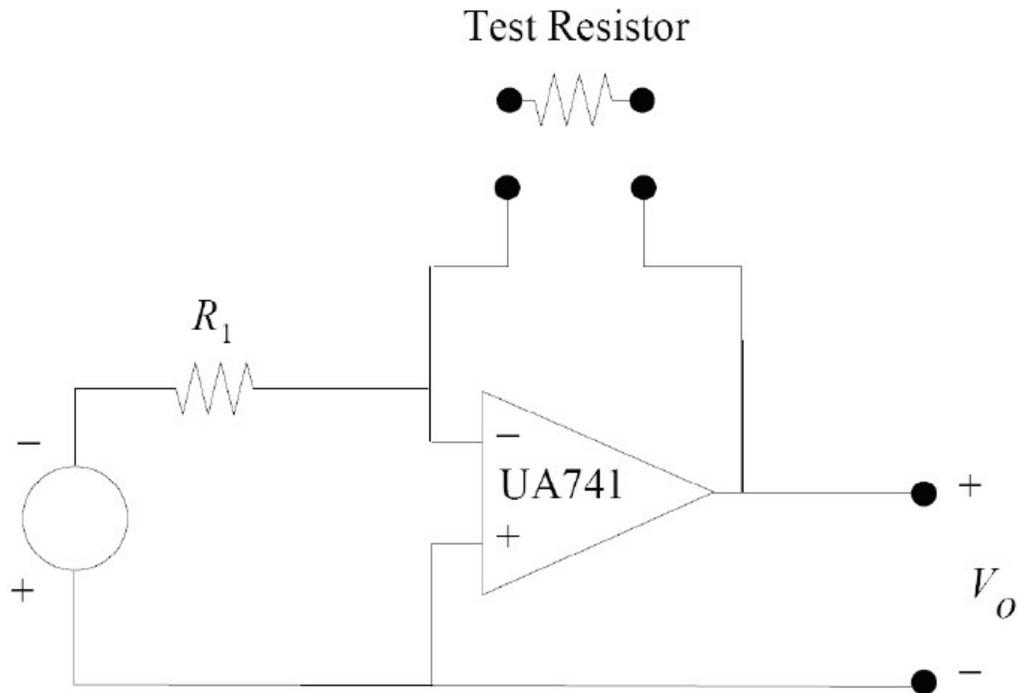

Figure 1
2. The operational amplifier, or op-amp, circuit shown in Figure 1 is proposed as an ohmmeter to measure unknown resistances. Find a value for R_1 so that the voltmeter connected to the output will read the resistance in kilo-ohms (i.e. $1\text{ V} = 1\text{ k}\Omega$, $2\text{ V} = 2\text{ k}\Omega$) when the voltage source is 1V .
Important Note: Please remember to turn off all power supplies to your circuit before making modifications to your circuits, such as when you move the test resistor in Figure 1 in and out of the circuit, since that eliminates the critical feedback path. Failure to turn off all power supplies will probably damage your op-amp in some way resulting in unpredictable behavior of your circuit.
- B1.** Create the circuit shown in Figure 1 with $R_1=1\text{ k}\Omega$, and perform the following experiment.